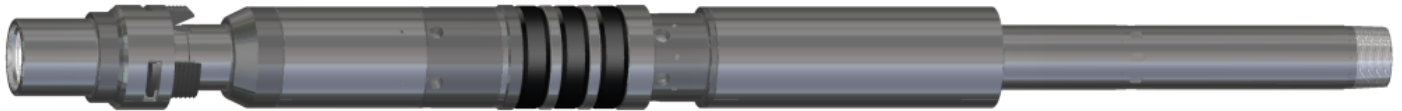

Fig. 11
L-16) While gripping in the element area, slide pre-assembled assemblies (by-pass housing assembly, rubber mandrel assembly, and setting chamber assembly) onto mandrel assembly past making contact with o-rings and on upwards to upper cone (9) (Fig. 11).